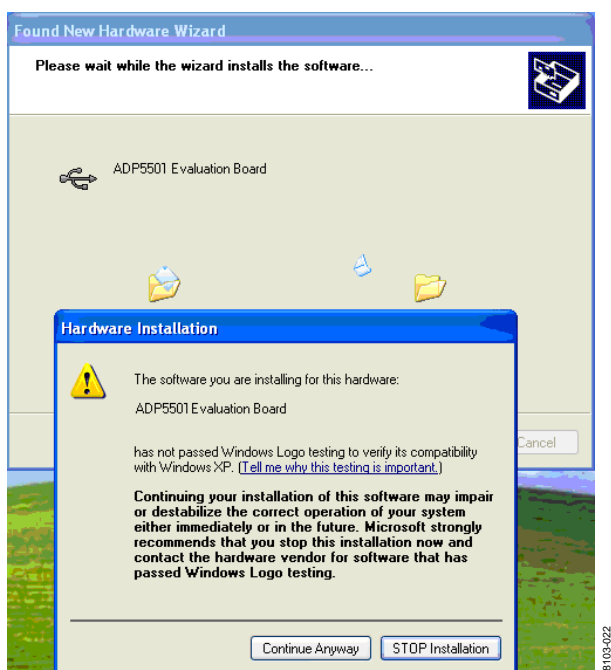

Figure 22. Logo Testing Message
4. When the message box shown in Figure 22 appears, click **Continue Anyway**.